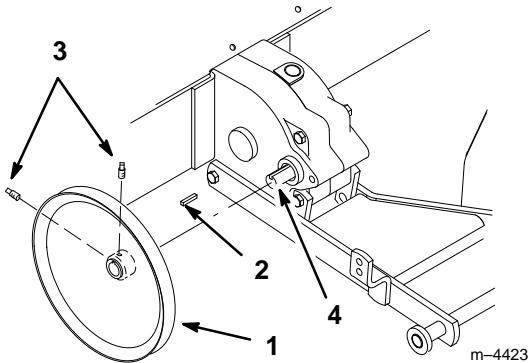

Figure 3
2. Cotter pin (3)
4. Install the pulley by inserting the square key into the input shaft groove. Slip the pulley onto the shaft (hub toward the gear case) and align it with the flat idler pulley. Secure it with two square-head set screws (Fig. 3).